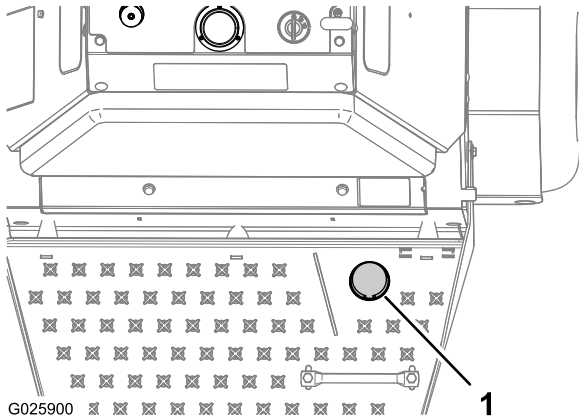

Figure 18
- Step on the tine-elevation switch to lower the tines (Figure 18).
- Stand on the switch and move the motion-control levers forward to aerate (Figure 18).
To raise the tines, remove your foot from the tine-elevation switch (Figure 18).